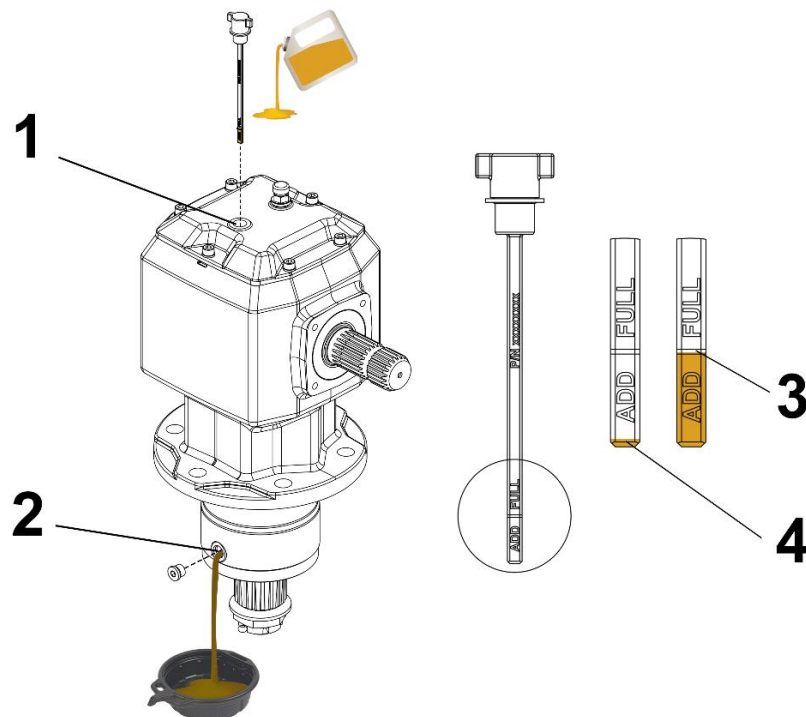

Figure 5.3 – Multicut Rotor Gearboxes
- The rotor gearboxes utilise a dipstick which should be removed and visually inspected on the gauge to ensure the oil is up to level mark: see Figure 5.3 (3).
- On rotor gearboxes add an additional oil if it's required to bring it up to the upper level mark on the dipstick, see Figure 5.3 (3), **before proceeding to use the machine**.
At all times the oil/grease level should be above the lower fill mark; see Figure 5.3 (4) as otherwise permanent damage could be caused to the gearbox.